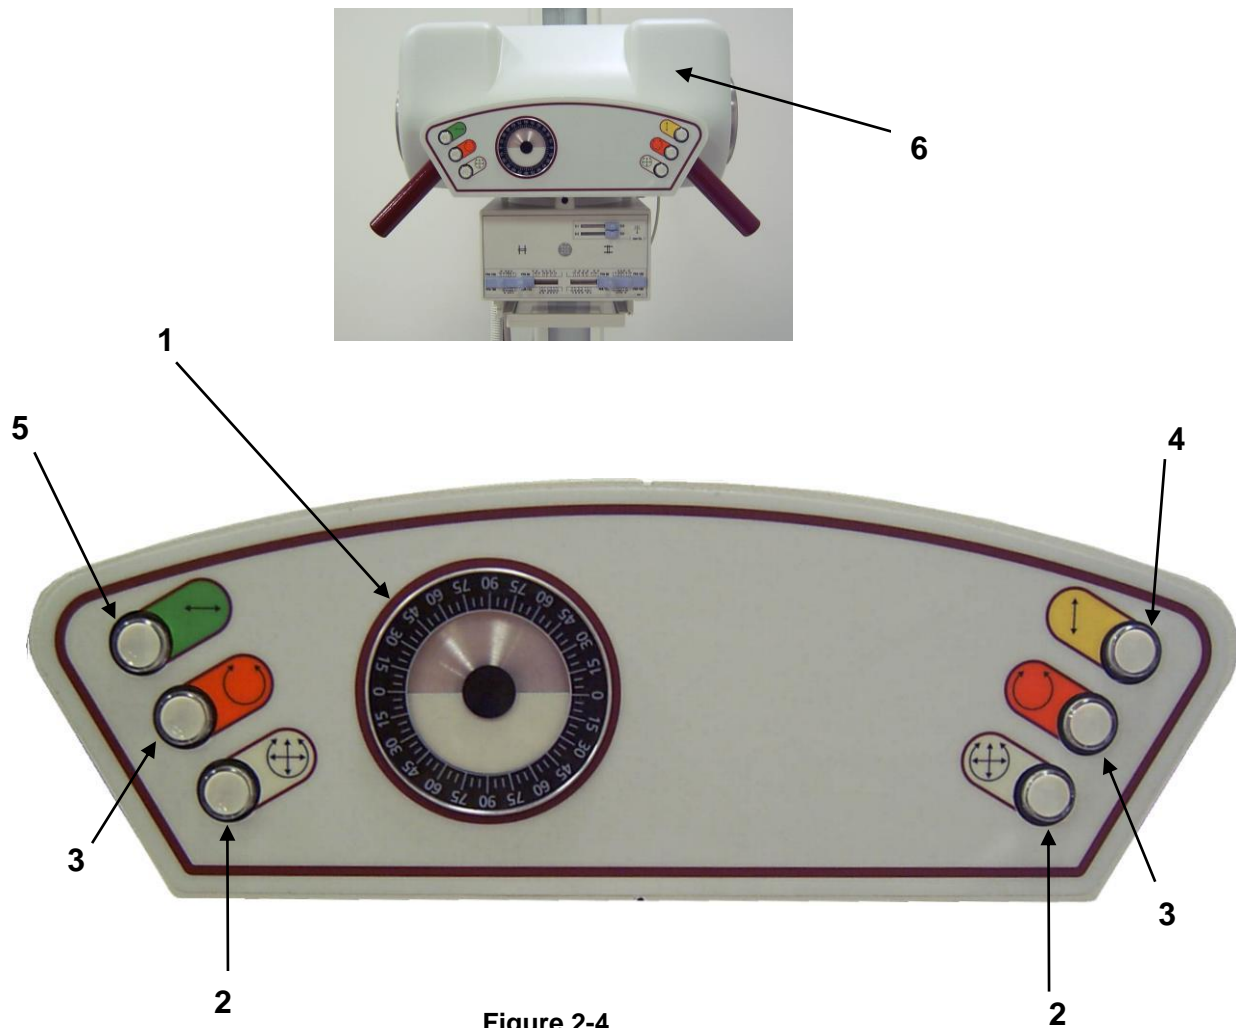

Figure 2-4
- Press the button (Figure 2-4/5) off the brake for the longitudinal motion of the tubestand.
- Press the button (Figure 2-4/4) off the brake to adjust the height of the X-ray unit.
- A film cassette may be placed into the cassette tray, when the X-ray tube assembly is positioned (see item 3.3 and item 3.4).
- Press the button (Figure 2-4/3) off the brake for the rotation of the X-ray unit to the arm axis.
- Press the button (Figure 2-4/5) off the brake for the longitudinal motion of the tube stand, and set the X-ray unit to the focus-film distance (FFD), which is necessary for the investigation to be carried out, where in any case the to observe focus area of the grid of the moving grid direction. This setting is with tape on the collimator or the markers (Figure 2-3/4) made to the upper guide rail of the tube stand.